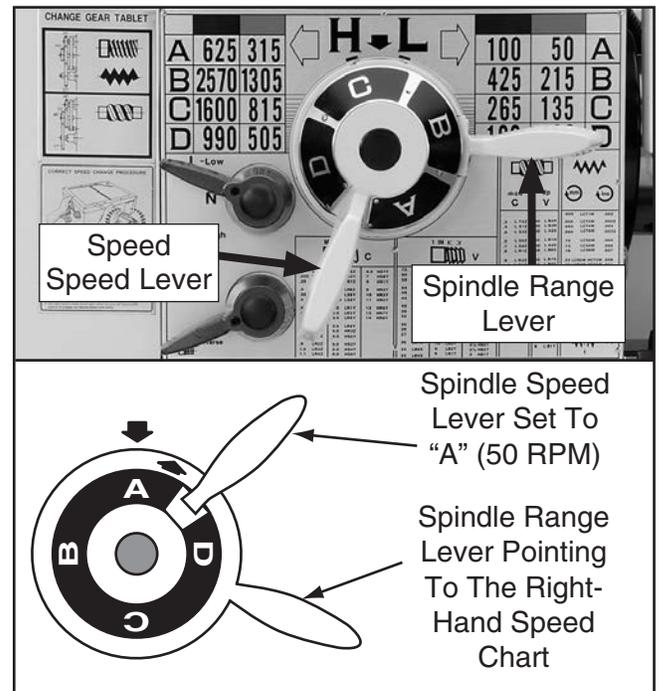

Figure 27. Spindle speed set to 50 RPM.
- a. Move the spindle range lever so that the arrow on top of its hub is pointing toward the right-hand spindle speed chart (see **Figure 27**).